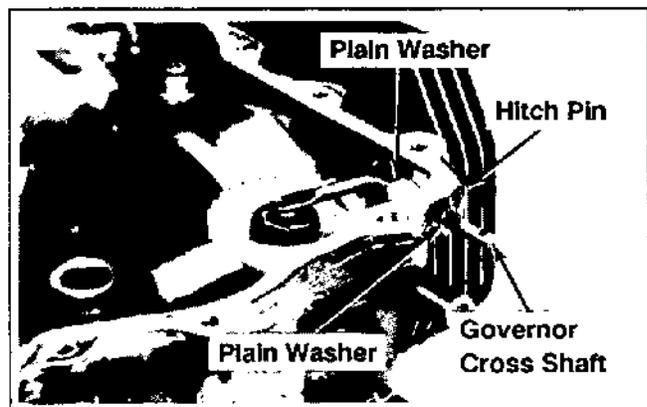

Figure 11-4. Installing Cross Shaft.
4. Install one plain washer to the cross shaft and insert the cross shaft (from inside crankcase) through the crankcase and oil seal. See Figure 11-4.